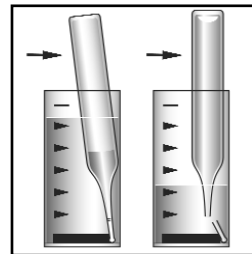

Figure 2
2. Place the K-5543 Vacu-vial ampoule, tip first, into the sample cup. Snap the tip. The ampoule will fill leaving a bubble for mixing (fig. 2).